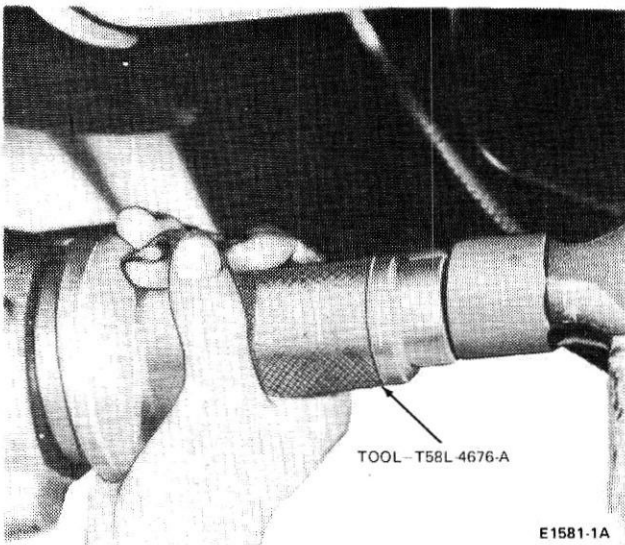

FIG. 30 Installing Pinion Seal
5. Install a new pinion oil seal in the carrier casting (Fig. 30).